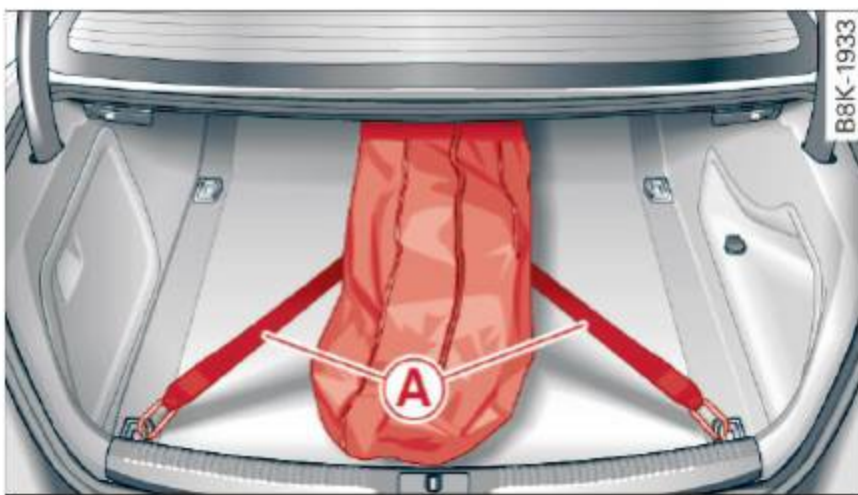
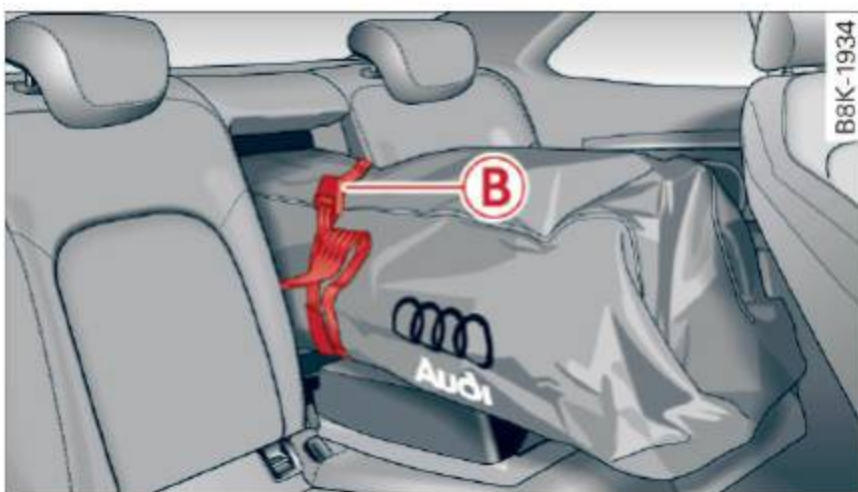

Fig. 72 Luggage compartment: Securing the ski sack
Fig. 73 Rear bench seat: securing the ski sack
There are two straps with hooks on the bottom side of the ski sack ⇒ fig. 72 **A**. There is also a securing strap **B** ⇒ fig. 73 on the sack.
- ▶ To secure the ski sack in the luggage compartment, hang the hooks in the rear tie-downs ⇒ fig. 72.
- ▶ Tighten the strap on the ski sack to prevent the objects in the sack from sliding ⇒ fig. 73.
- Sharp edges on the load must be covered for protection. Always fasten the belt tightly around the sack and its contents ⇒ fig. 73.